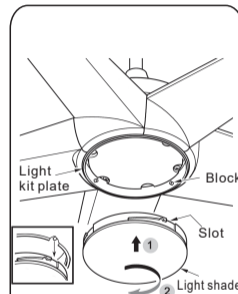

Fig. 25
Step 6: Align the slot of the light shade with the raised dimple on the light kit plate and turn it clockwise until it stops.(Fig. 25)